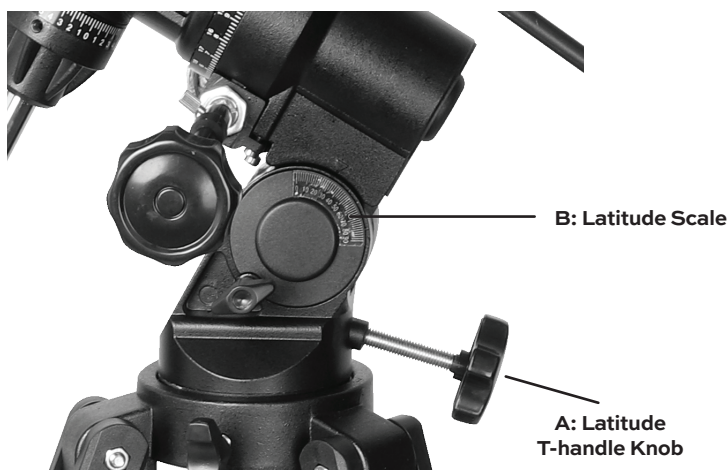

Figure 6.3
5. Determine the latitude of your observing location. This is easy using an app on a smart phone. Use the latitude T-handle knob (Figure 6.3 A) to tilt the telescope mount until the pointer matches the latitude of your latitude scale (Figure 6.3 B). If your smart phone has a level or inclinometer, you can place it on the saddle plate (where the telescope attaches to the mount) and set the angle to match your latitude.